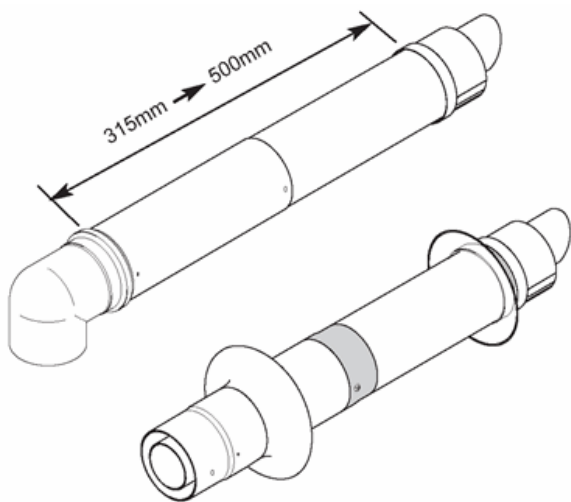

Fig. 11
1. The standard horizontal telescopic flue kit allows for lengths between 315mm and 500mm from elbow to terminal without the need for cutting (Fig. 11).